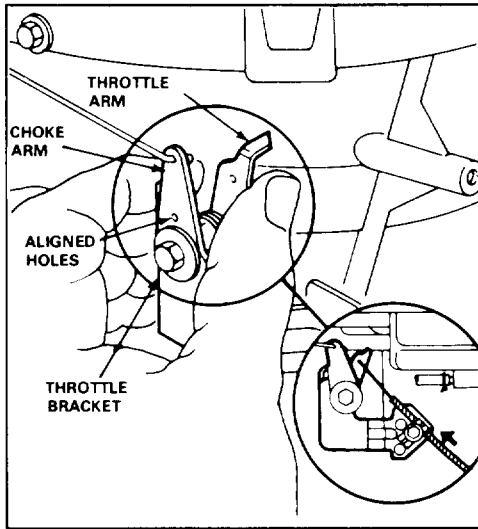

Figure 10
3. Loosen cable clamp screw until throttle cable slides (Fig. 10). Align holes in choke arm and throttle bracket. A small dia. pin may be inserted into aligned holes to hold adjustment. Push throttle cable until throttle arm makes contact with choke arm. Tighten cable clamp. Remove pin if used.